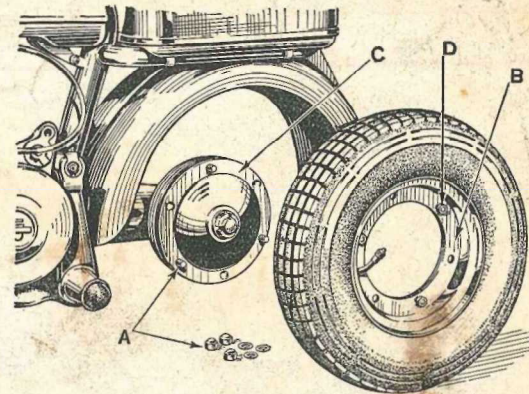
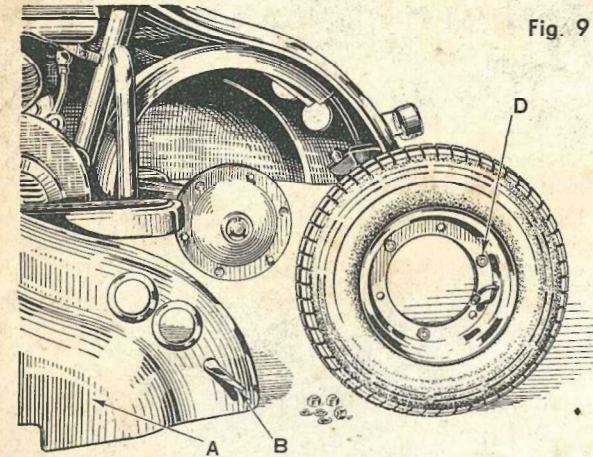

Fig. 8
Fig. 9
To dismantle the rear wheel on the model d (fig. 8) loosen the three cap nuts (A) fixing the rim (B) to the hub (C); before dismantling the wheel on the model ld (fig. 9) remove the left side covering (A) loosening the fastener (B).